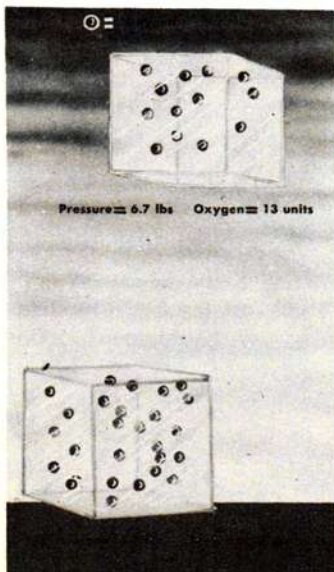

Figure 3-1-1. Two cubes of air. Top cube is at 20,000 feet; bottom cube, at sea level.
**Causes.** Anoxia or the lack of oxygen in the blood stream is caused by the reduction of pressure with altitude. This is easily understood if you compare the two cubes of air illustrated in figure 3-1-1. Both cubes are the same size and contain the same *proportion* of oxygen (one-fifth the volume); yet because of the difference in altitude and therefore pressure, the cube at 20,000 feet contains less oxygen.